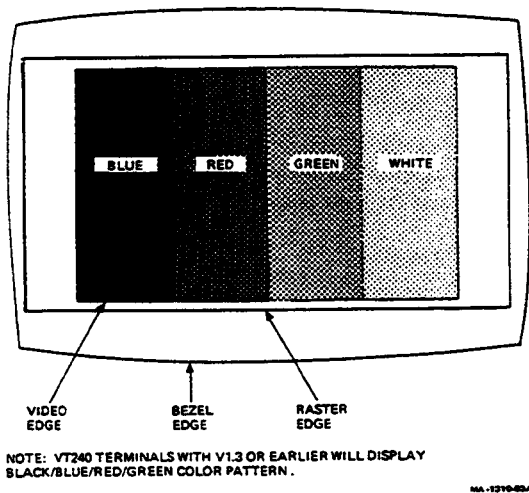

Figure 4-2 Color Bar Pattern
- Color bar pattern (See Figure 4-2.)